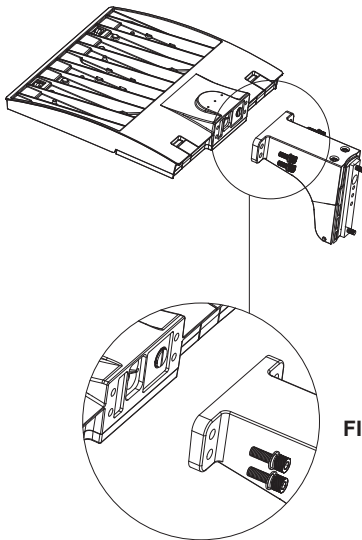

FIG. 3
1. Lock the mounting and housing in place using four supplied machine screws, M8 spring washers, six M8 flat washers and a M8 external tooth in place washer at torque setting 9.6NM. (See Fig. 3 & 4)